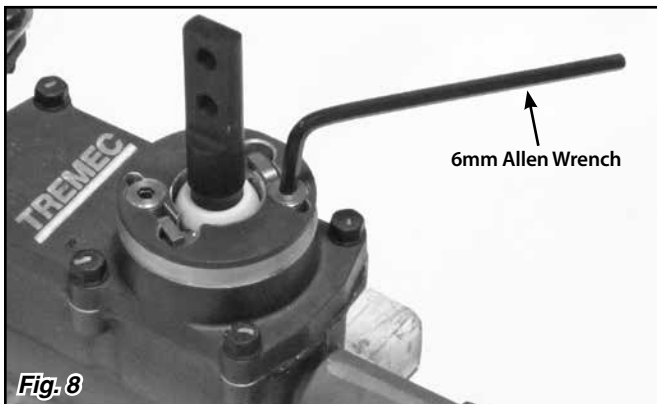
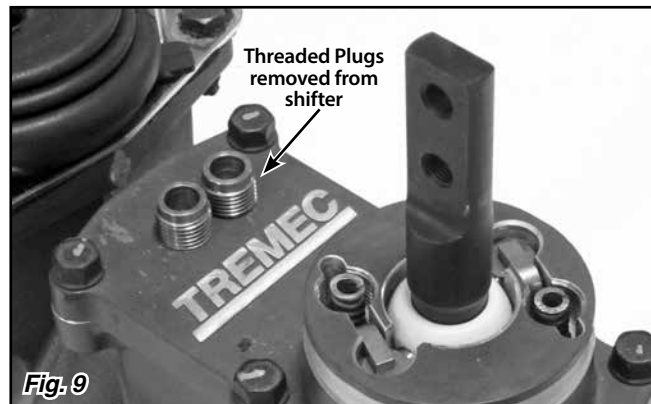

Fig. 8
Fig. 9
Step 5: Using a 6mm Allen wrench, carefully remove the two threaded plugs from the shifter turret plate. **Make sure the corners on your Allen wrench are not worn!** The tool will have very little engagement depth in the threaded plug, making it easy for the tool to slip out. **Fig. 8 and Fig. 9**